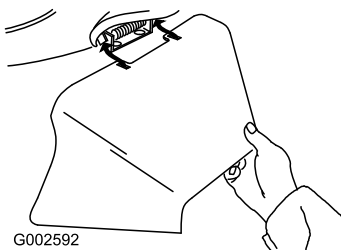

Figure 28
3. Install the side-discharge chute and close the door onto the chute (Figure 28).